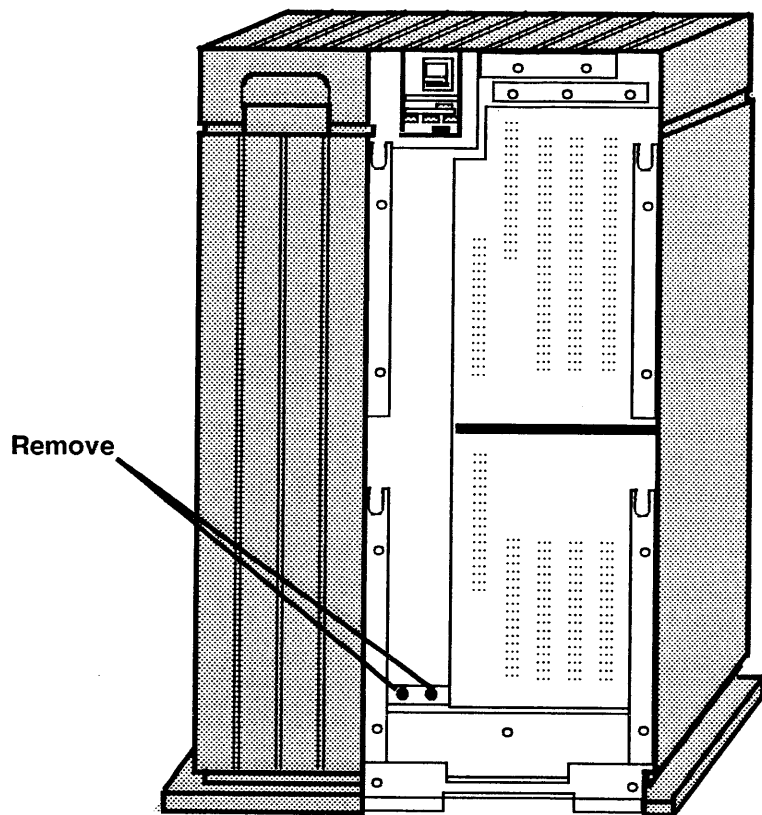

Figure 37. Fan Connector Bracket Nuts
13. Remove the nuts that secure the fan connector bracket (Figure 37).